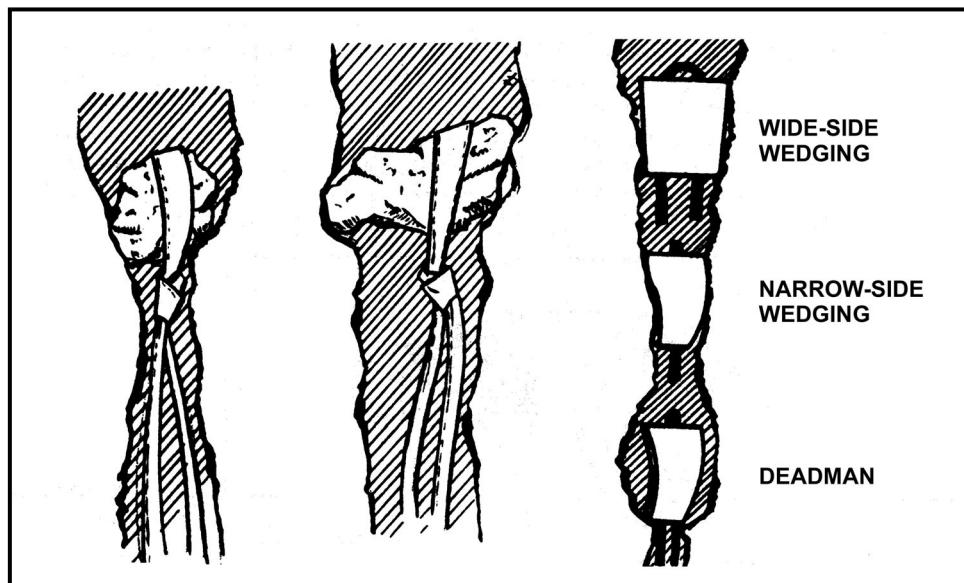

Figure 5-15. Chock placements.
- c. **Placement.** The principles of placing chocks are to find a crack with a constriction at some point, place a chock of appropriate size above and behind the constriction, and set the chock by jerking down on the chock loop (Figure 5-15). Maximum surface contact with a tight fit is critical. Chocks are usually good for a single direction of pull.
- (1) Avoid cracks that have crumbly (soft) or deteriorating rock, if possible. Some cracks may have loose rock, grass, and dirt, which should be removed before placing the chock. Look for a constriction point in the crack, then select a chock to fit it.
- (2) When selecting a chock, choose one that has as much surface area as possible in contact with the rock. A chock resting on one small crystal or point of rock is likely to be unsafe. A chock that sticks partly out of the crack is avoided. Avoid poor protection. Ensure that the chock has a wire or runner long enough; extra ropes, cord, or webbing may be needed to extend the length of the runner.
- (3) End weighting of the placement helps to keep the protection in position. A carabiner often provides enough weight.
- (4) Parallel-sided cracks without constrictions are a problem. Chocks designed to be used in this situation rely on camming principles to remain emplaced. Weighting the emplacement with extra hardware is often necessary to keep the chocks from dropping out.